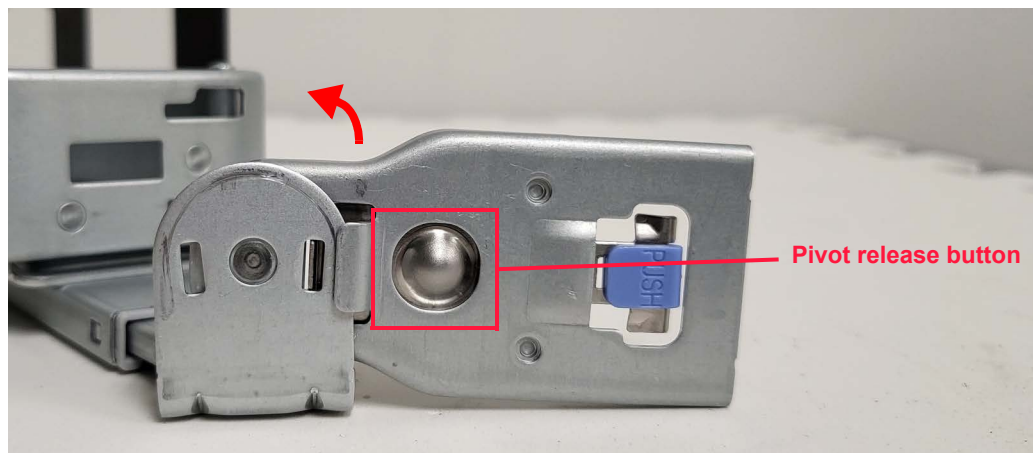

Figure 4.20 Switching CMA directions
2. Verify the CMA direction. To change the direction of the CMA so that the body connector is on the opposite side of the enclosure, press the pivot release button on the outside of the CMA elbow (identified in Figure 4.20), pivot the arm 180 degrees, and pivot the arm connectors 180 degrees.